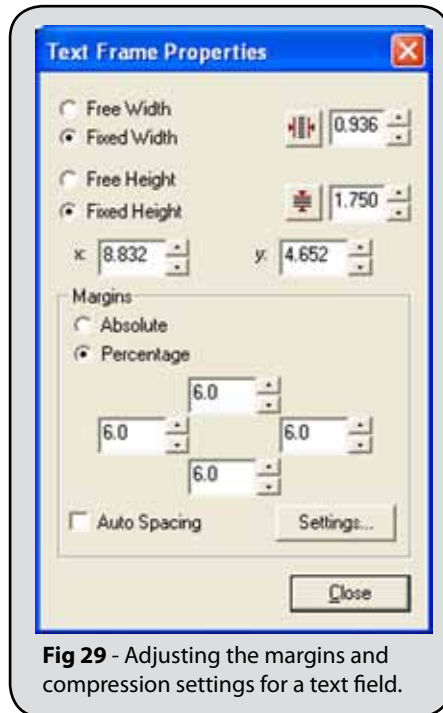

Fig 29 - Adjusting the margins and compression settings for a text field.
12. Click the **Frame Properties** button to open the **Text Frame Properties** dialog. (Fig. 29)